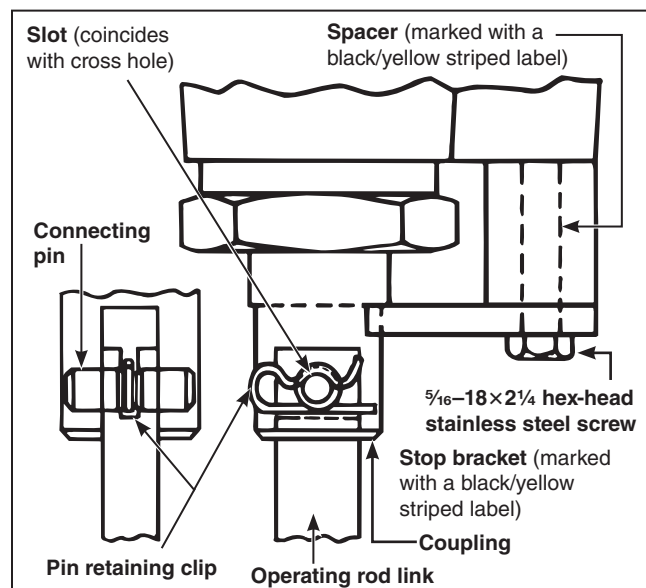

Figure 15. Connect the interrupter to the operating rod link. (69 through 138 kV)
- For circuit-switchers rated 69 kV through 138 kV:* Insert the connecting pin retained from Step 10(c) into the coupling and operating rod link. See Figure 15. It will be necessary to loosen the $\frac{5}{16}$ -18 \times $2\frac{1}{4}$ hex-head stainless steel screw indicated in Figure 15 and withdraw it approximately $\frac{1}{8}$ -inch so the connecting pin can be inserted. Do not remove the screw at this time. Insert the pin retaining clip as indicated in Figure 15. Make sure that the clip is positioned as shown.
- Remove and discard the $\frac{5}{16}$ -18 \times $2\frac{1}{4}$ hex head stainless steel screw, stop bracket (marked with a black/yellow striped label), and spacer (marked with a black/yellow striped label) illustrated in Figures 15 and 16.
- The interrupter coupling has been connected to its insulated operating rod link (see Figures 15 and 16 on page 16)